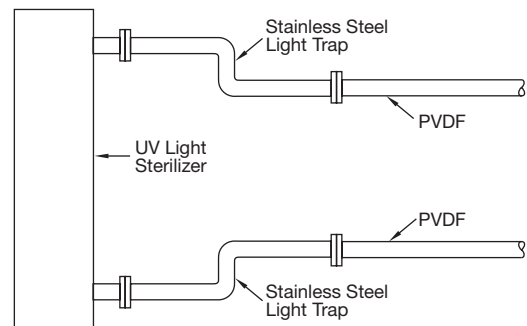

Figure D-8. UV light trap
All plastics react differently to UV exposure. Section C defines the effects on PVDF, PP, and E-CTFE materials. In addition to the external exposure of UV lights, it is also common for UV sterilizing lamps to be used to control bacteria levels in a water system. These lamps give off high intensity light to break up living bacteria in water. Depending on the wave length of the lamp, trace amounts of ozone can be generated from these lamps. The combination of the intense UV and ozone can create stress cracking in piping components directly in contact with the light source. To avoid a possible problem, build a light trap from stainless steel (SS) components. The use of SS diaphragm valves or a couple of changes in direction will eliminate the concern altogether. Figure D-8 illustrates an efficient light trap.